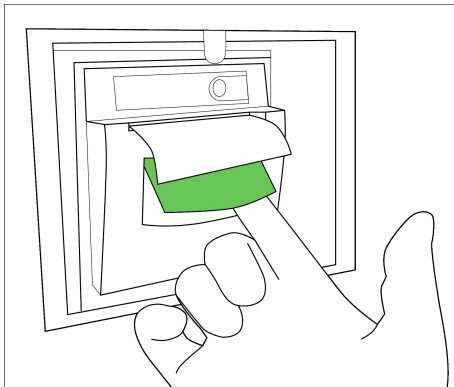

Figure 4-4. Lifting the lever below the paper-feed slot
3. Lift the lever below the paper-feed slot to open the printer door (Figure 4-4).